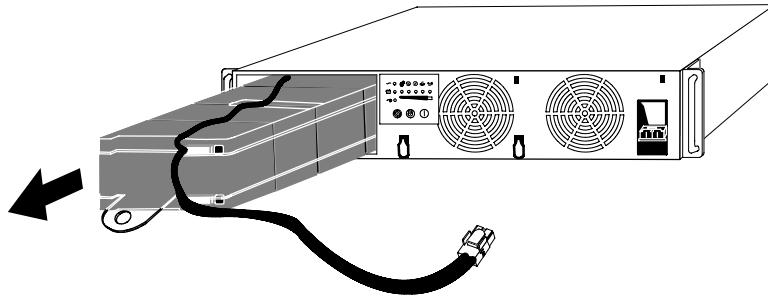

Figure 31. Removing the Battery
4. Pull the battery out onto a flat, stable surface (see Figure 31). See “Recycling the Used Battery or UPS” on page 52 for proper disposal.